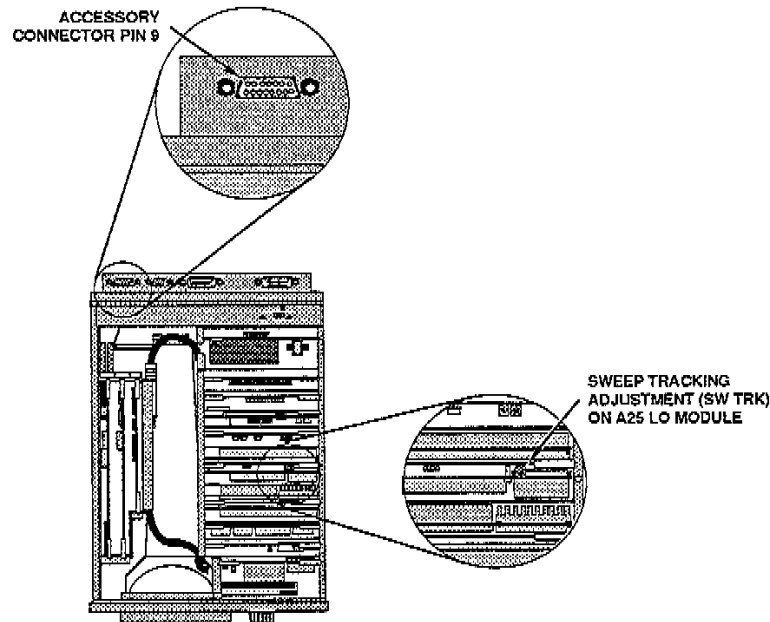

Figure 3-26. Location of Sweep Tracking Balance Test Points and Adjustment.
5. Connect the digital voltmeter to pin 9 on the instrument's rear-panel ACCESSORY port. See Figure 3-26.
9. Adjust the Sweep Tracking adjustment located on the LO module (see Figure 3-26) so that the voltage measured at pin 9 is the same as was measured in step 7.